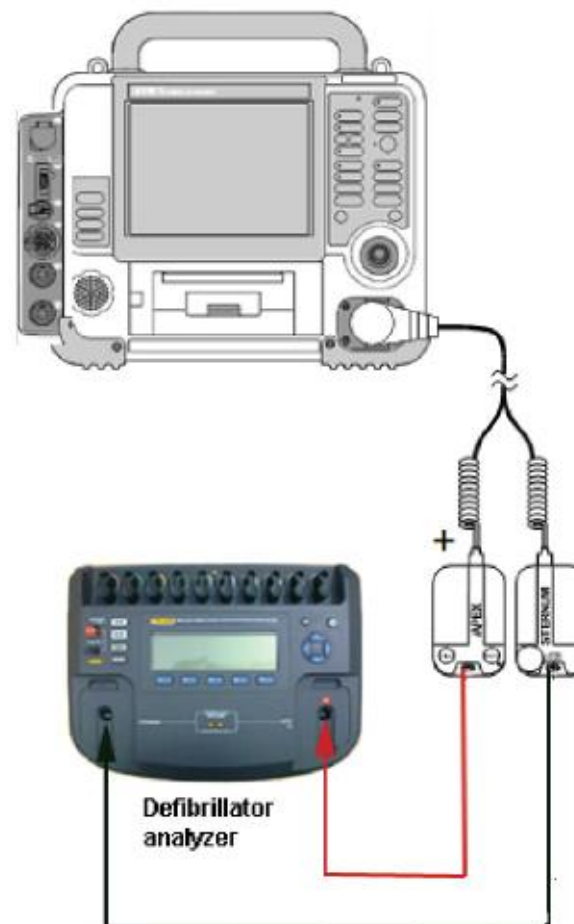

Figure 1.47—Standard paddles defibrillator delivered energy setup
1. Place Standard Paddles onto the defibrillator analyzer as shown in Figure 1.47.